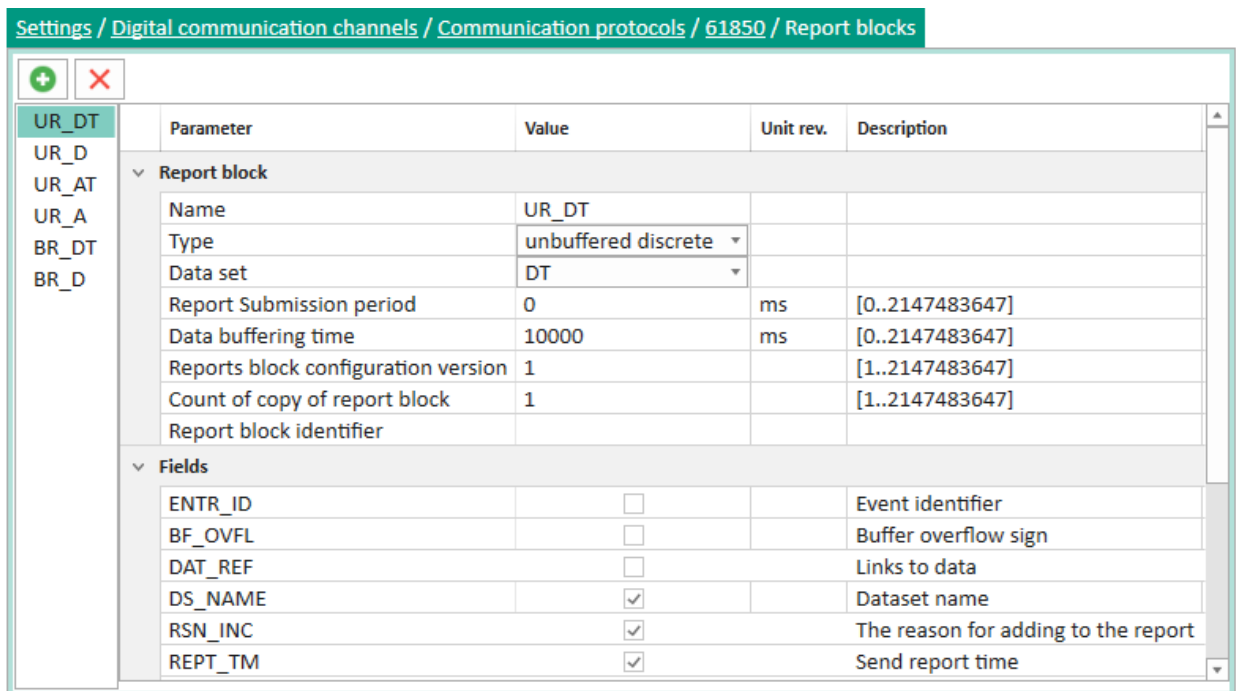

Figure 121 – Parameters of report blocks
6) Parameters of report blocks (figure 121).